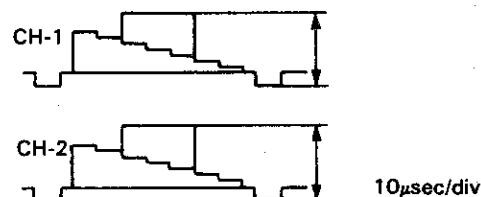

Figure 2-12.
2. Adjust R202 (delay level control) so that the levels of CH-1 and CH-2 are the same as shown in Figure 2-12.